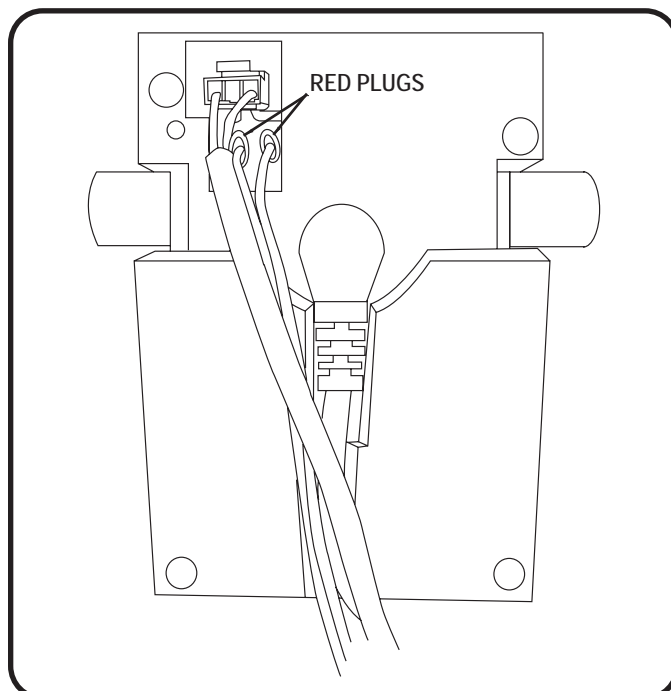

Figure 6.2 Safety Switch Plugs
2. If the motors are out of sync, disconnect one of the two red safety switch plugs from the motor control box (**Fig. 6.2**).
4. Reconnect the red safety switch plug into the motor control box (**Fig. 6.2**).